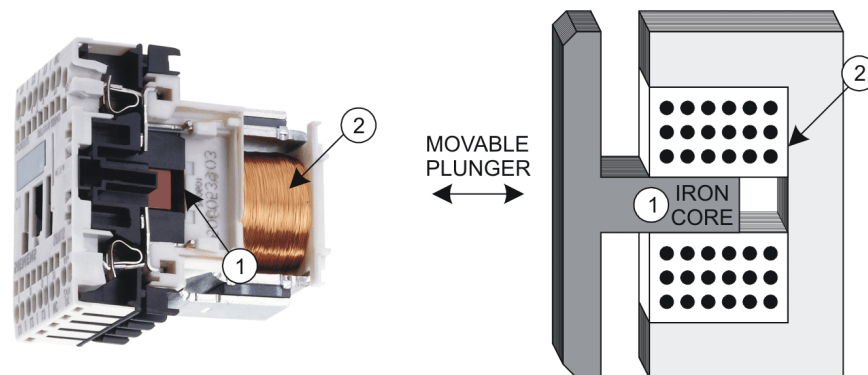

Figure 1-13. Basic magnetic core and coil.
**Solenoids**, such as the one shown in Figure 1-13, are extensively used to operate contactors and control relays. Placing a coil of wire around a soft iron **core** sets up a magnetic flux. When energized, a **magnetic field** is developed around the coil. A north and a south pole are created and the iron core becomes a temporary magnet. As a result, a moveable plunger is attracted to the coil, and contacts attached to the plunger change state.